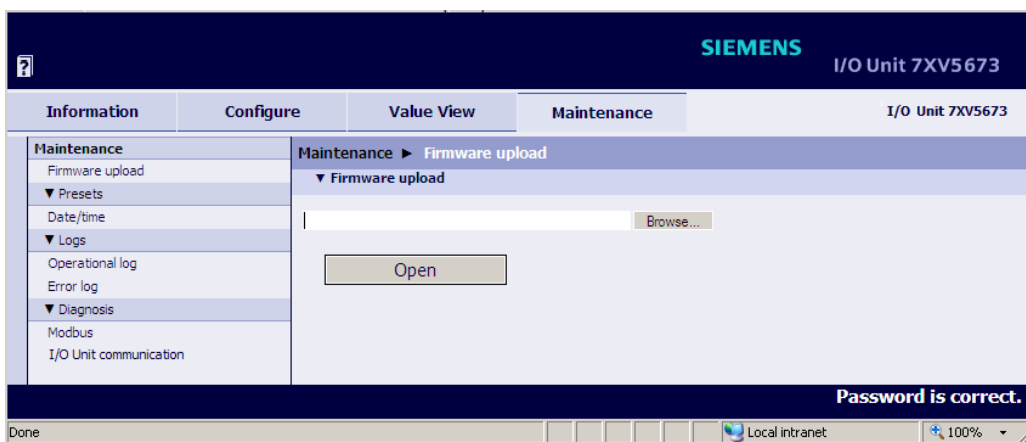

Figure 6-53 Maintenance Tab, Firmware Upload - Open Input/Output Window
- ✧ The selected path is inserted in the input/output window, Figure 6-53, into the **Browse...** field.